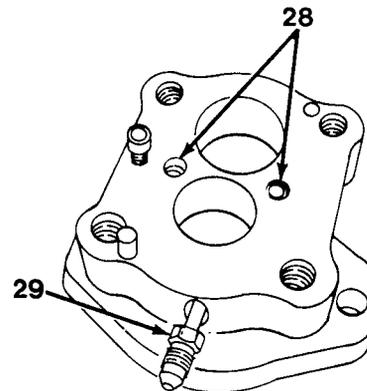

Figure 16-14
20. Remove two check assemblies (28) and adapter (29, Figure 16-14).
2. Install two check assemblies (28) and adapter (29, Figure 16-14).